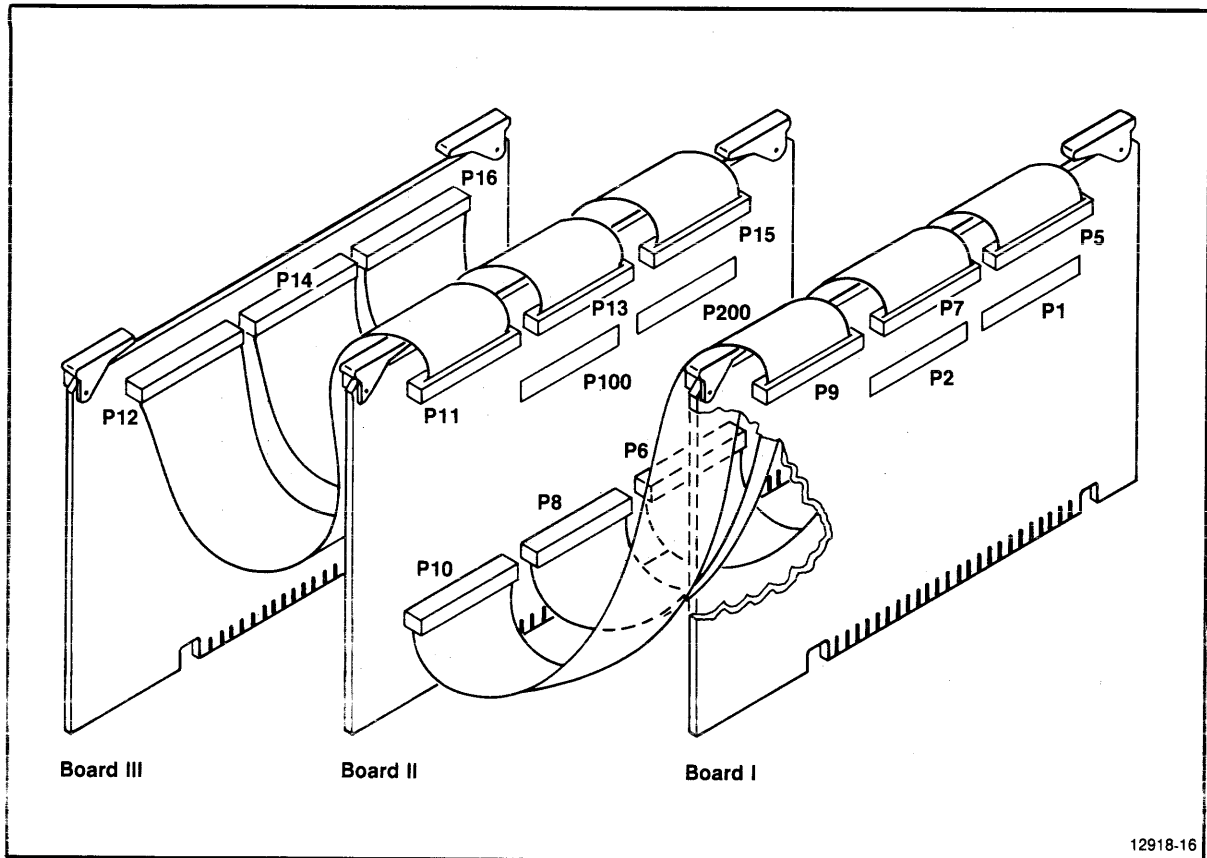

Fig. 6-2. 80186/80188 Emulator board interconnections.
5. Connect Boards I, II, and III together, using the six 50-conductor ribbon cables provided. Dress the cables as illustrated in Fig. 6-2.